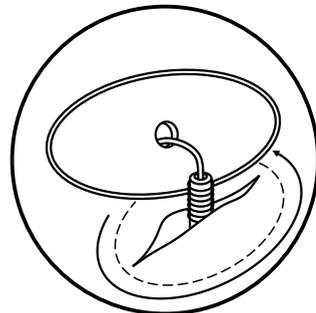

Fig 12 - Twist lower half to align with tear/split
4. Twist the lower half as you place it into the split (Fig12).